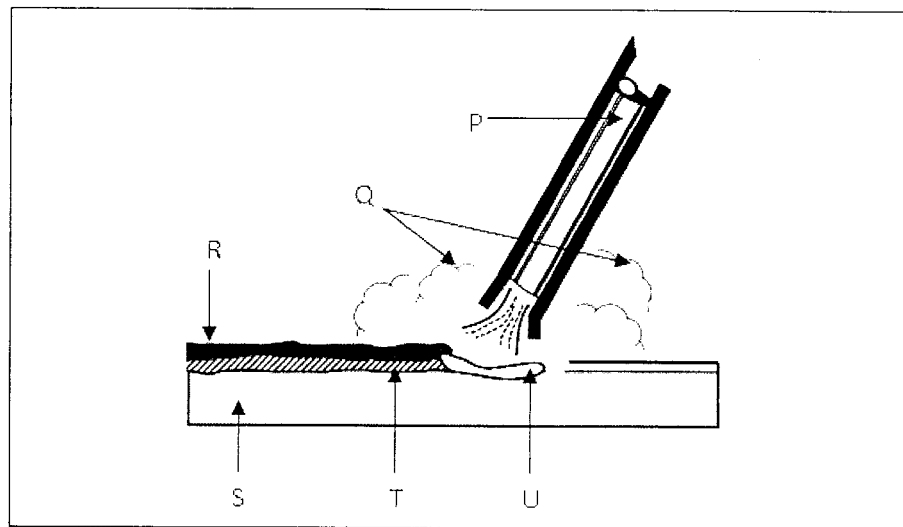

Figure 4 (a) / Rajah 4(a)
- (a) Name the component labelled **P, Q, R, S, T** and **U** as shown in Figure 4(a).